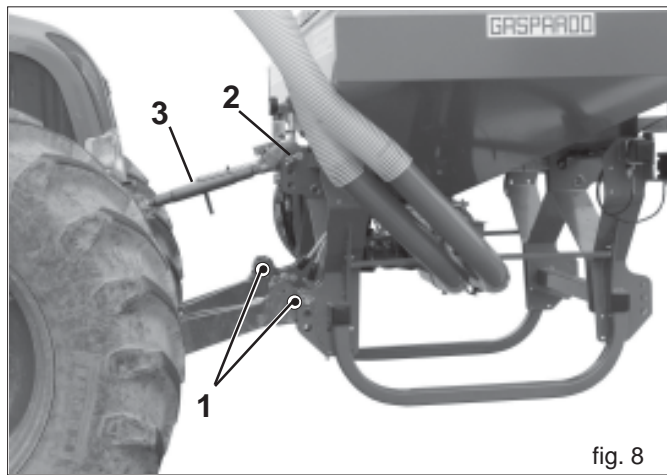

fig. 8
- 1) Hook the lifter bars onto the pins provided (1 Fig. 8) Block with the snap split pins. Hook the chains to the lifting bars
- 2) Connect the third upper point (2 Fig. 8); the pin will be blocked with the appropriate split pin; use the adjusting tierod (3 Fig. 8) to keep the equipment perpendicular to the ground.
3.2 CHECK THE LIFTING CAPACITY AND STABILITY OF THE TRACTOR TO WHICH THE MACHINE IS HITCHED (Fig. 8)